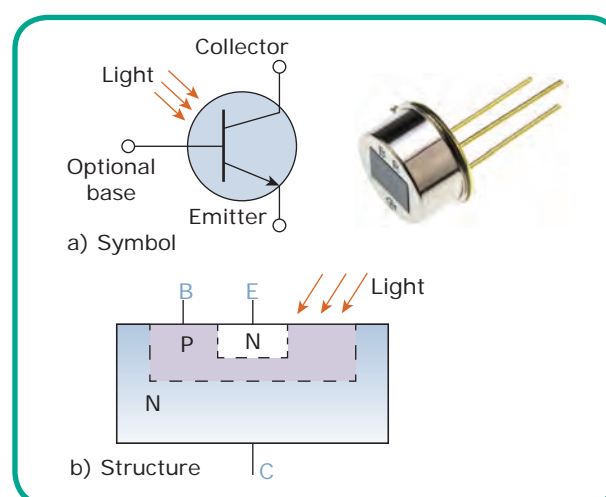

Figure 6.6 NPN Photo Transistor
Figure 6.6 shows the NPN phototransistor. It is usually connected in common emitter (CE) configuration with base open. A lens focuses the light on the base-collector junction. The modern photo transistor uses efficient light effective materials instead of making a hole and fixing a lens on it. Photo transistor has three terminals, but only two terminals are generally used. Here the base current is supplied by the current created by the light falling on the base-collector junction.